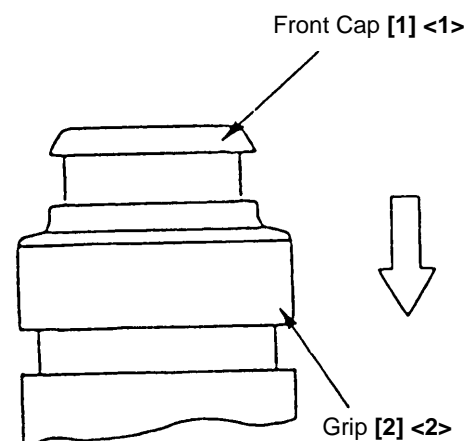

Fig. 10
As shown in Fig. 10, slide the Grip **[2] <2>** in the direction indicated by the arrow mark, and remove the Front Cap **[1] <1>**. The Grip **[2] <2>**, Ball Holder **[3] <3>** inside the Grip, Holder Spring **[4] <4>**, Washer (B) **[5] <5>** and Steel Ball **[18] <18>** can then be removed from the Cylinder **[20] <20>**.